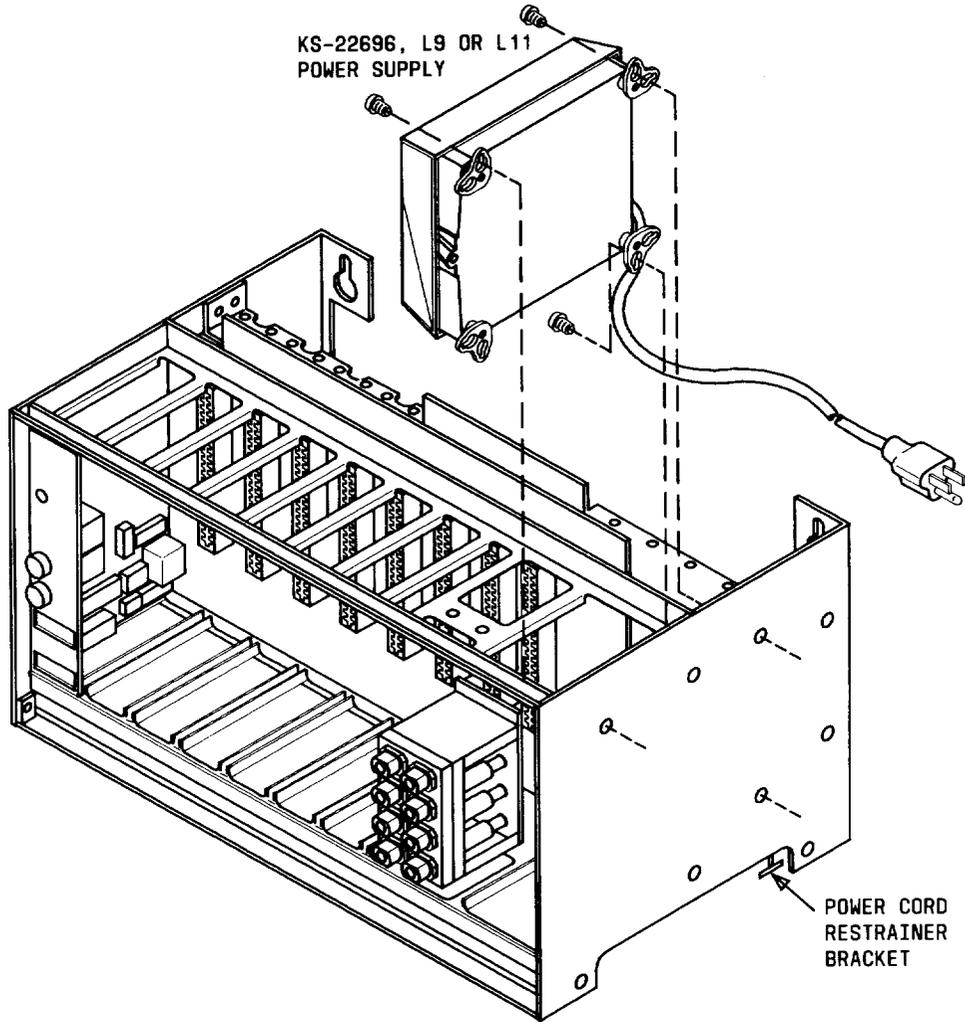

Fig. 5—Installing Power Supply Kit
- Position keyhole brackets on power supply over the three screw holes on inside of housing right side panel (Fig. 5).
- Tie power cord to restrainer bracket with cable tie (Fig. 5).